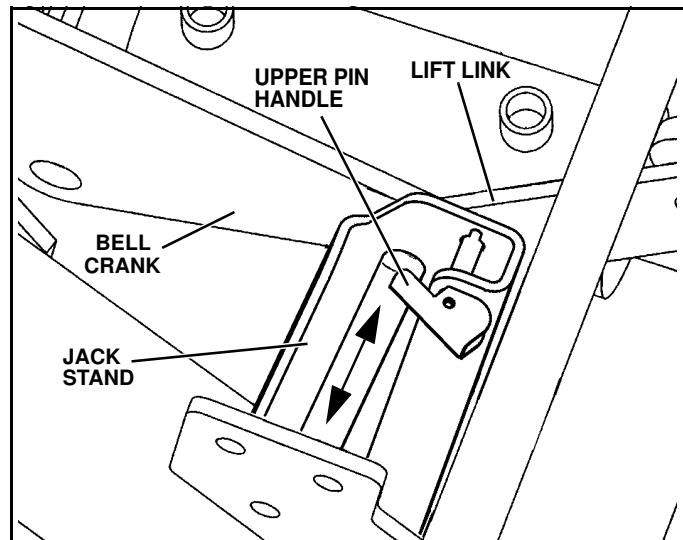

Figure 1-29
7. Disengage lower jack stand pin by pulling on handle. Lower the jack stand and engage the top pin by pushing on the handle. Make sure pin is engaged in hole by rotating jack stand back and forth. (See Figure 1-29)